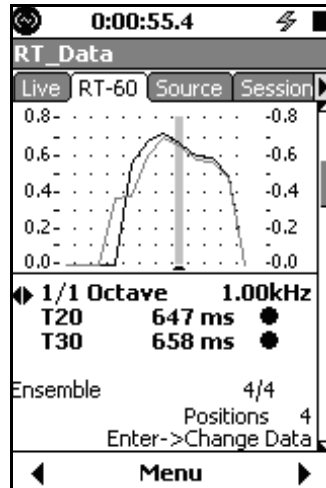

FIGURE 15-14 RT-60 Spectra
*A prompt near the bottom of the display (**Enter -> Change data** in Figure 15-14) indicated where the focus of the left/right arrows will go when **ENTER** is pressed.*